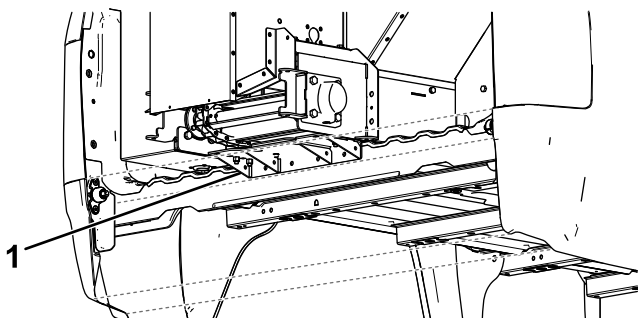

Figure 5
3. Slide the spreader toward the vehicle cab until the slide stop hits the truck bed (Figure 5).